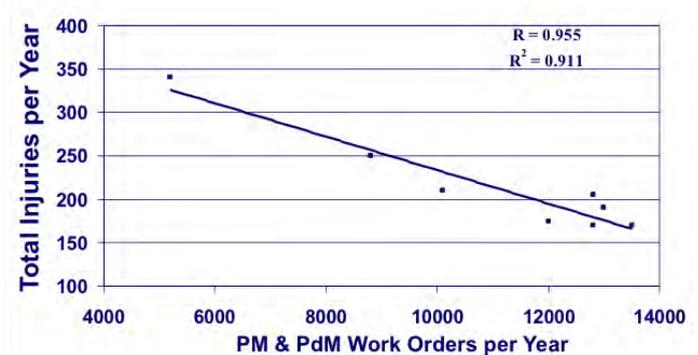

Figure 2: Injuries versus PM/PdM work orders per year
When plant equipment is cared for by doing preventive maintenance (PM) in a disciplined way, and when equipment is routinely monitored to detect problems early and those problems are managed by proper planning of the work, there are fewer injuries. See Figures 2 and 3.